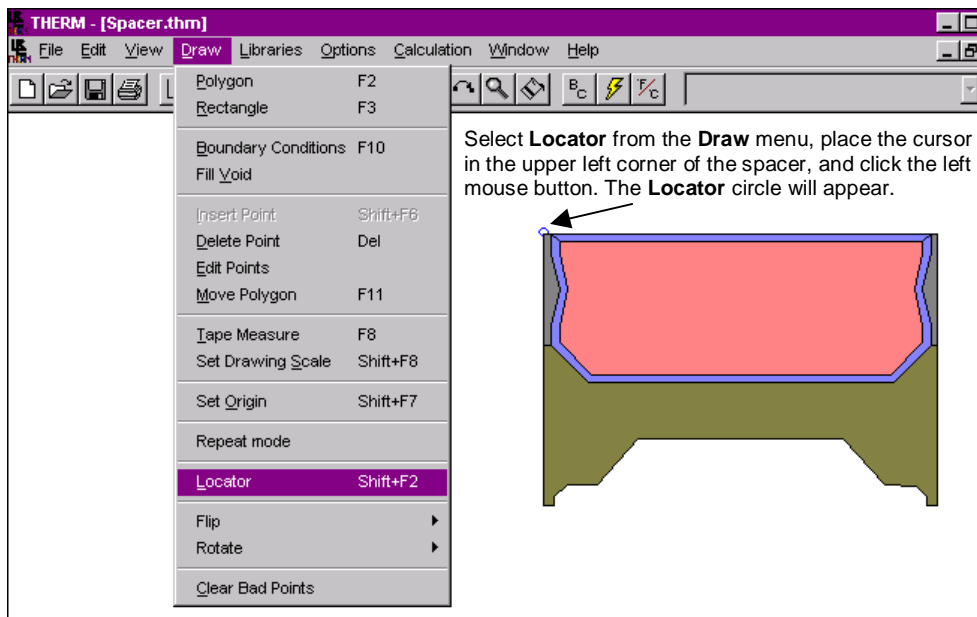

Figure 8-41. Position the **Locator** in the upper left corner of the spacer.
- Use the **Draw/Locator** menu to place the locator circle in the upper left corner of the spacer drawing (if it is not already there), as shown in Figure 8-41.